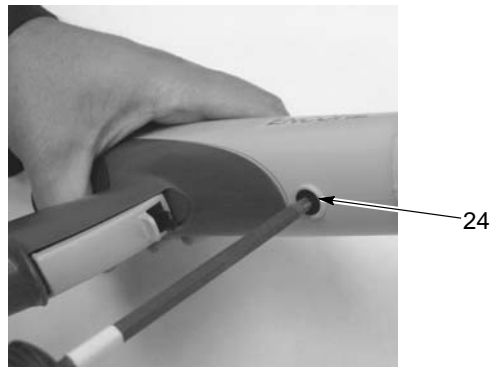

Figure 3 Removing the Display Module
5. See Figure 3. Remove the M5 x 10 nylon screw (24) from the gun body.
29. See Figure 3. Install the M5 x 10 flat head nylon screw into the gun body to secure it to the handle.